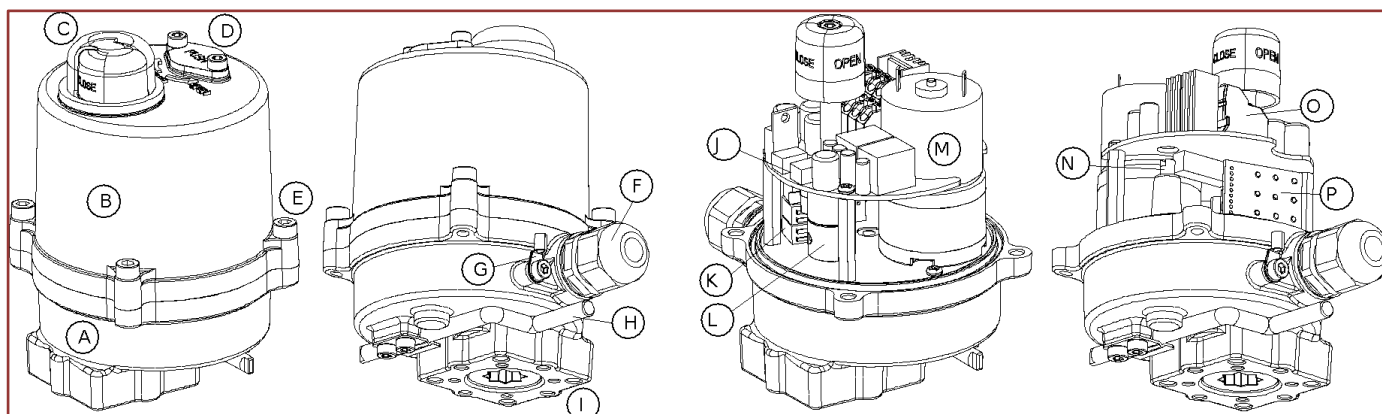

FIGURE 2: COMPONENTS OF THE AG-SERIES ACTUATOR.
- 2 Loosen the four Captive Bolts (Figure 2-E) and carefully remove the Body Base (Figure 2-A).
- 3 Unscrew and remove the Cable Gland PG11 (Figure 2-F).
- 4 Insert a suitable cable through the Cable Gland PG11 (Figure 2-F).
- 5 To activate the AC mode, put switch 1 OFF and switch 2 ON (Figure 4). To activate the DC mode, put switch on 1 ON and switch 2 OFF. The switches can be found on the Main PCB (Figure 2-J).
The wires should be connected to the terminal block (Figure 2-N), according to the wiring diagram (Figure 5).
- 8 Tighten the cable gland (Figure 2-F).
- 9 Connect the ground (Figure 2-G).
- 11 Align the position of the valve and the actuator. That is, open or close both the actuator and the valve (you may use the Mechanical Position Indicator (Figure 2-C)).
12 Mount the actuator to the valves with the appropriate flange (Figure 2-I).
Remount the Body Cover (Figure 2-B) with the four Captive Bolts (Figure 2-E).